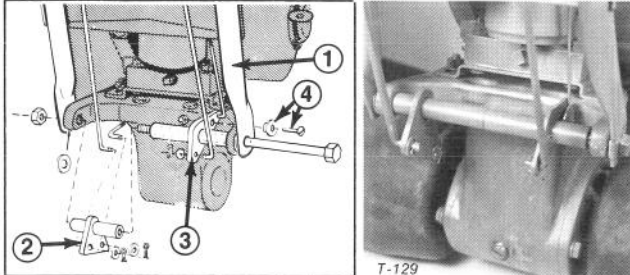

Figure 1
1. Remove handle mounting fasteners from the main frame (Fig. 1), mount handle, slide mounting screw through handle, frame, bell cranks and other components and secure with nut (Fig. 1).
3. Secure throttle and clutch rods with flat washers and cotter pins and throttle wire with retainer screw (Fig. 1).